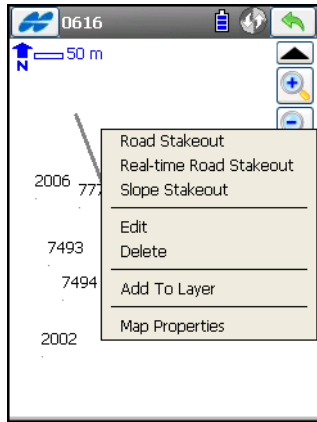

Figure 7-33. Editing from the Main Map
1. When in the Main Map, tap the desired road to highlight it. Then hold the stylus on the selected road for a while until a pop-up menu displays (Figure 7-33).